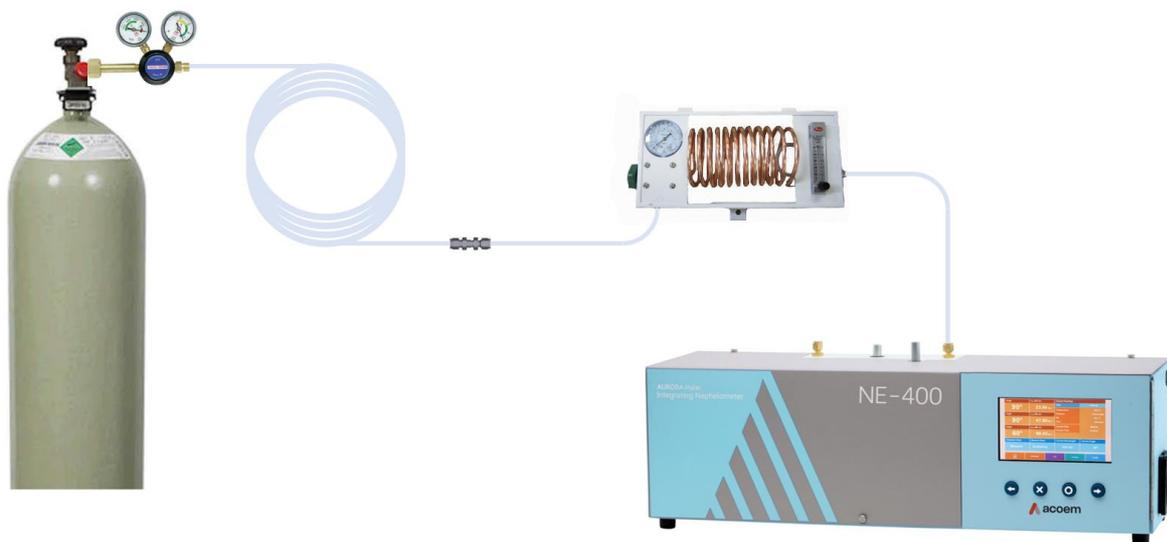

Figure 171 – Gas Delivery System
1. Navigate to the Config page and then to the Hardware child page. Ensure the flow settings on the Installed Options panel are set as per Figure 171 **Error! Reference source not found..**
- Navigate to the Config page and then to the Hardware child page. Ensure the flow settings on the Installed Options panel are set as per refer to in Figure 171 **Error! Reference source not found..**